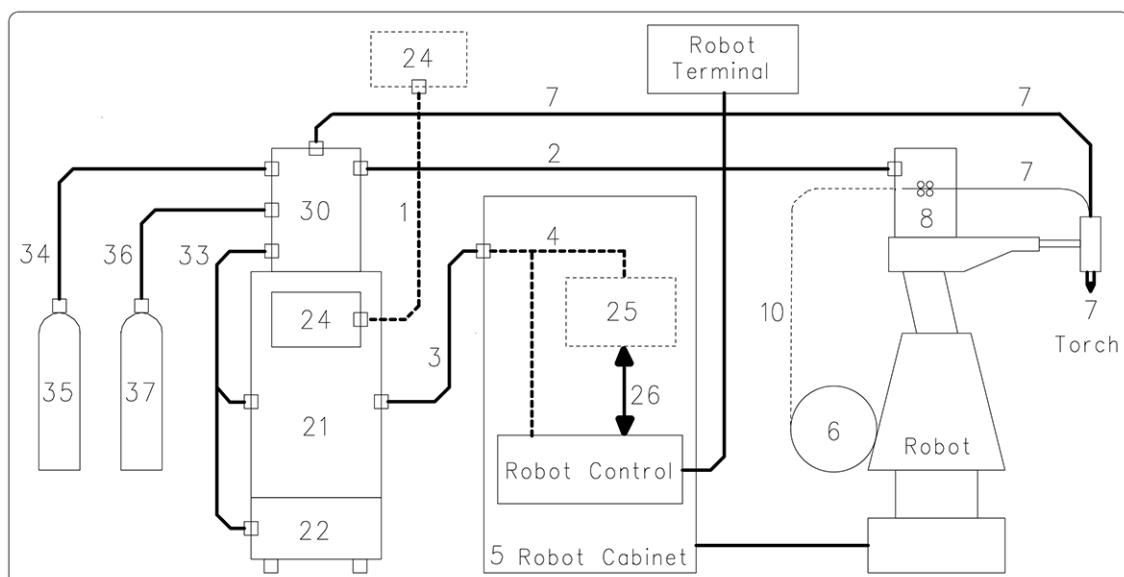

fig. 2
system is made up of a power source, control panel (opt.), internal or external cooling unit, a wire feeder, a plasma console (opt.) and a robot interface (opt.)(fig. 2).
NOTE: If the robot control (Robot Control in Fig. 2) is fitted with a CANopen DS401 communication line, interface (25) and cable (26) are unnecessary. Use Item 2063 in combination with Item 2054 in this configuration.
### 2.1 Assembly (fig. 2)